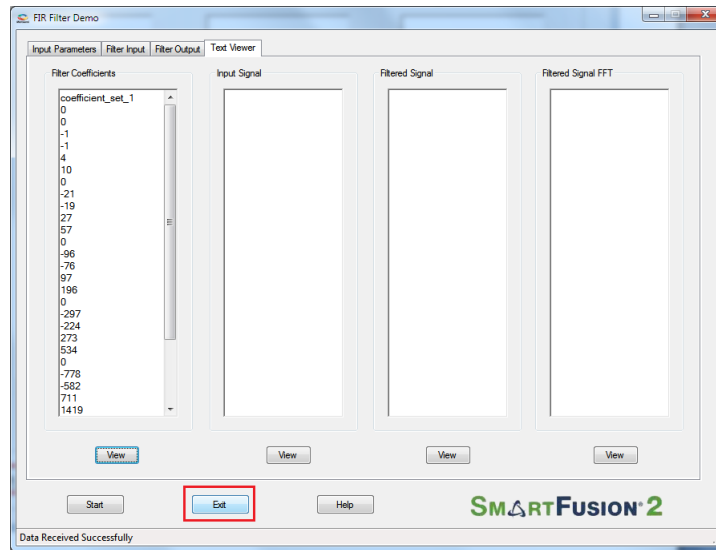

Figure 1-19 • Exit Demo
14. Click **Exit** to stop the demo as shown in Figure 1-19.